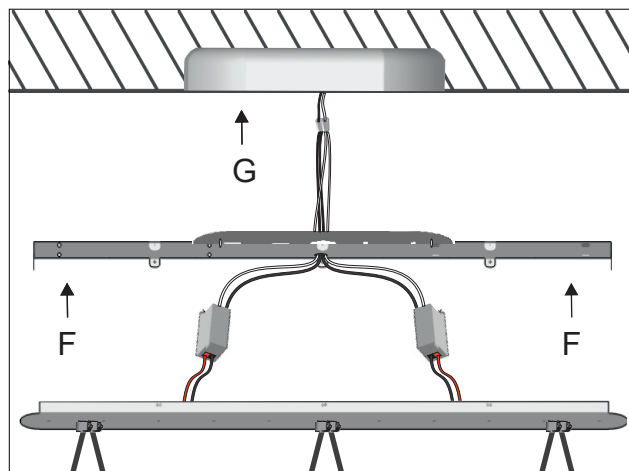
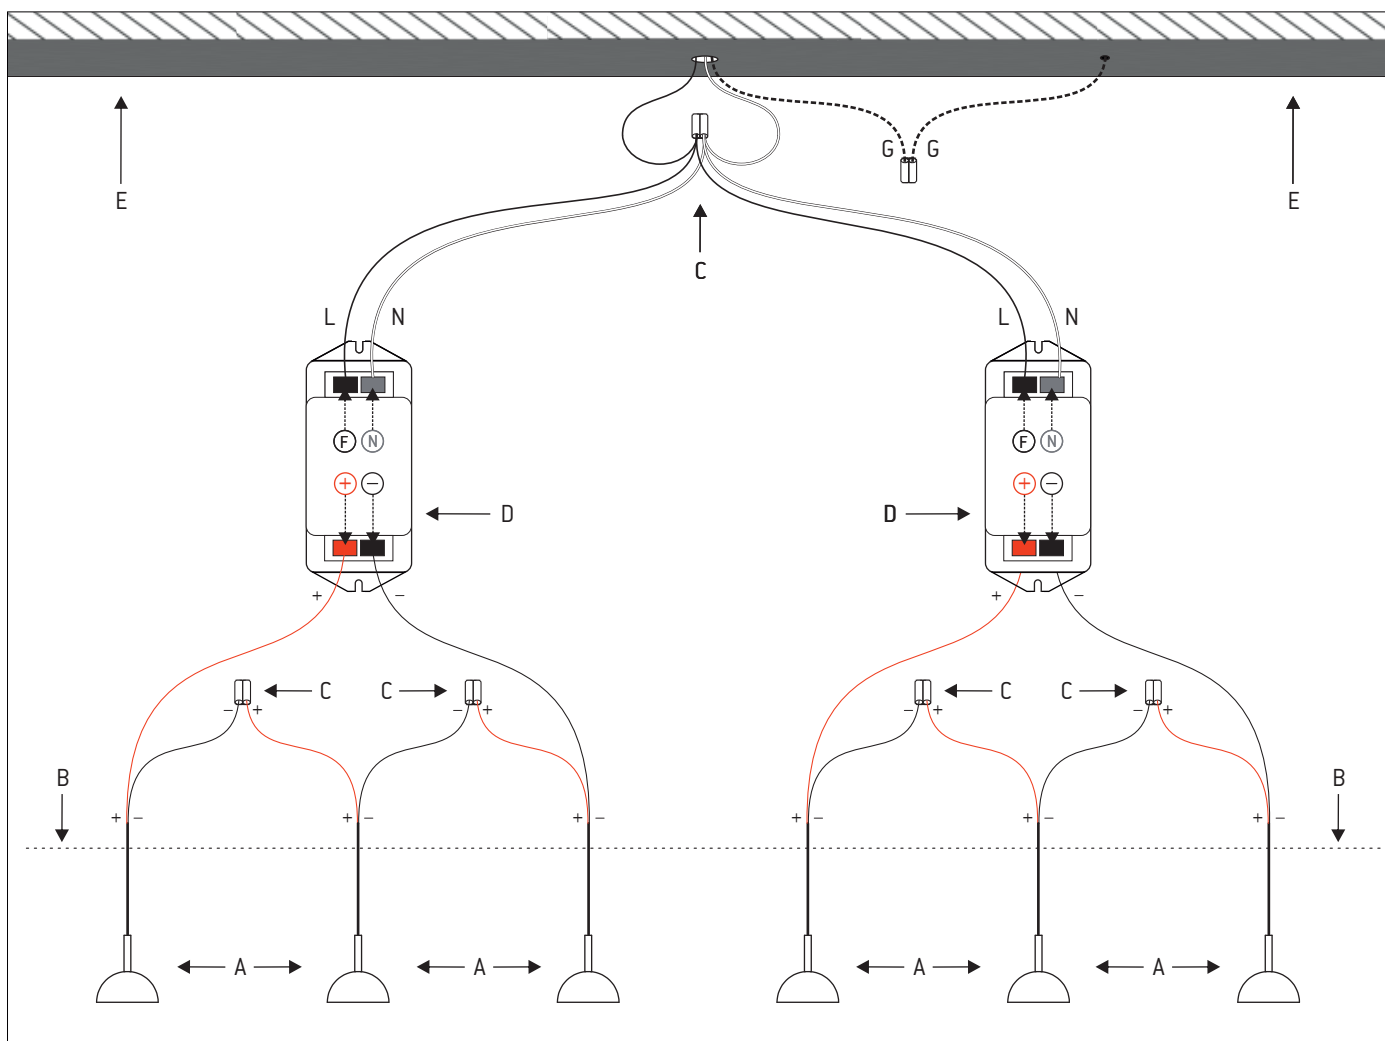

Figure 3
Figure 5
3 - Make the electrical connections inside of the junction box (G) [see figure 5 for connection scheme]. Attach the mounting bracket (F) to the ceiling. Figure 3.
The pendants must be connected using a single driver for three pendants. The driver (D) and the three pendants have to be connected in series. Make sure the drivers are all connected to the main power. See connection scheme. Figure 5.